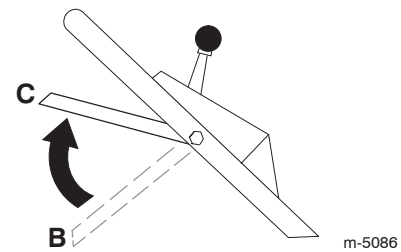

Figure 18
3. Bring the blade control bail up into the middle position about 5 inches (12.7 cm) below the handle cross bar (Position **C** in Fig. 18).
4. Release the blade control bail (Position **B** in Fig. 18).